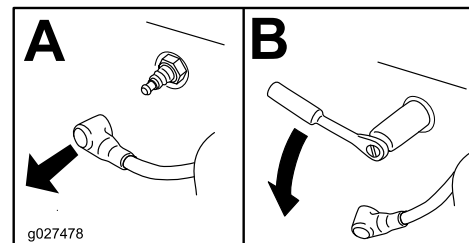

Figura 35
3. Localize e remova as velas (Figura 35).